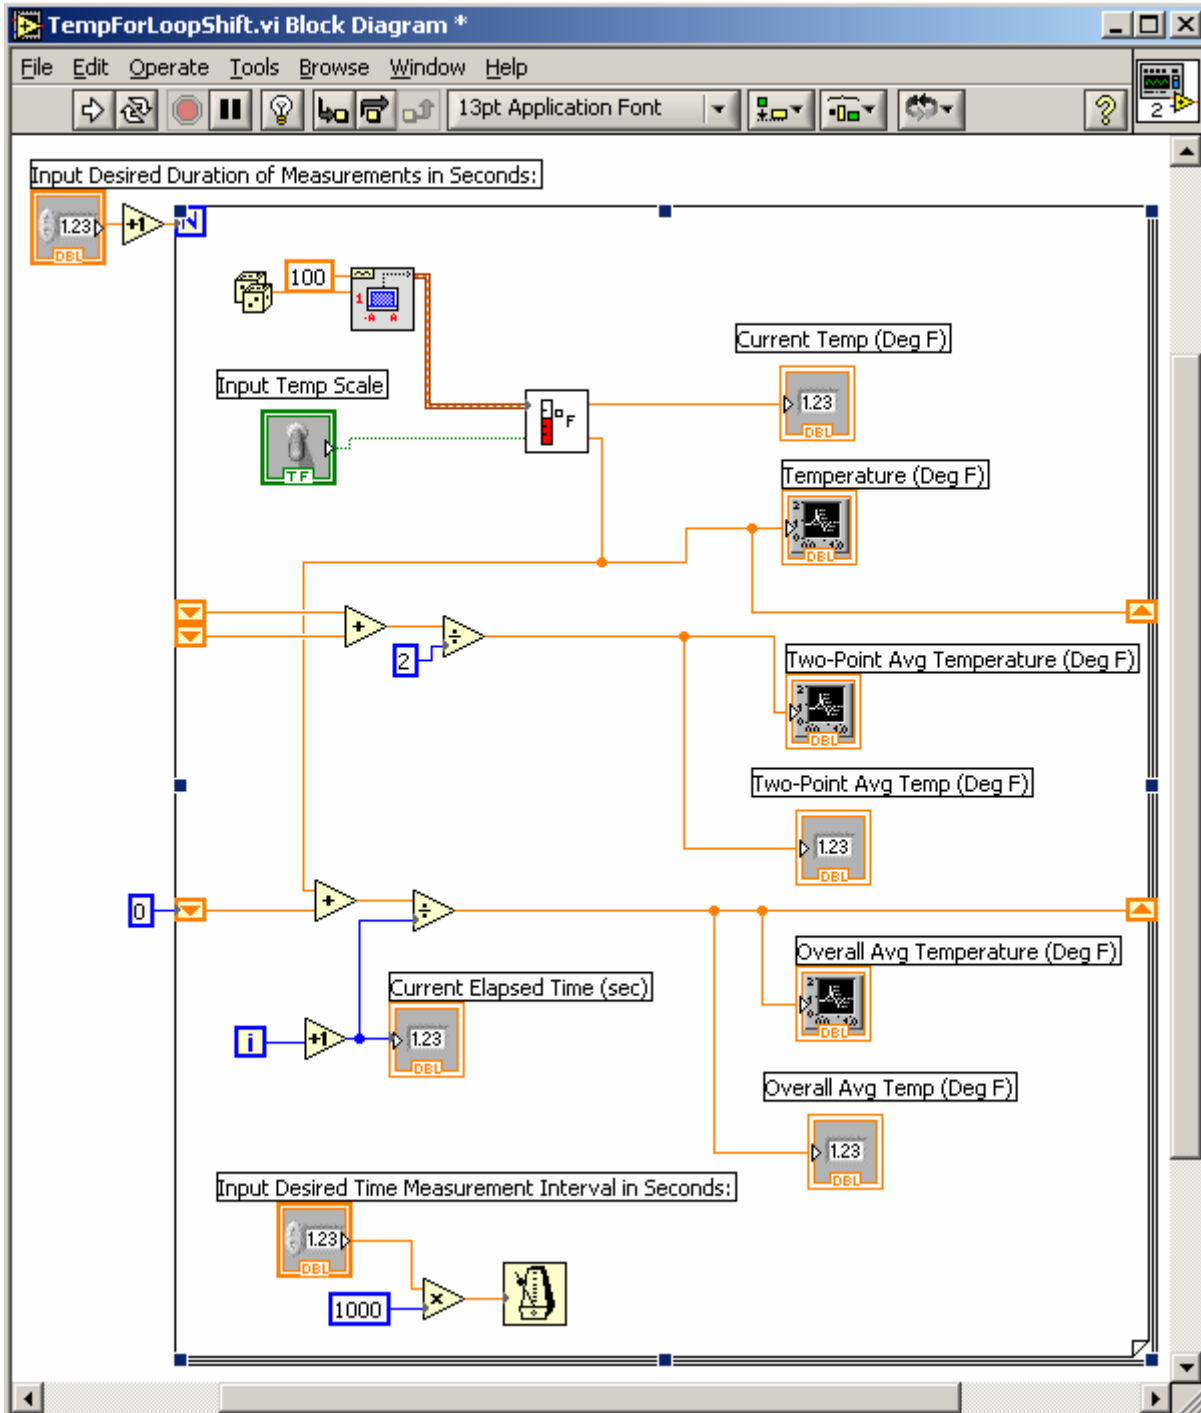

Figure 3.7: Block Diagram for Temperature Averaging VI
- **Highlight** both **Terminals** → **Hold Ctrl** → **Left-Click** and **Drag Twice** to desired locations (Refer to Figure 3.7)
e. Wire the **Block Diagram** as follows (if needed, refer to Figure 3.7):
- e. Wire the **Block Diagram** as follows (if needed, refer to Figure 3.7):